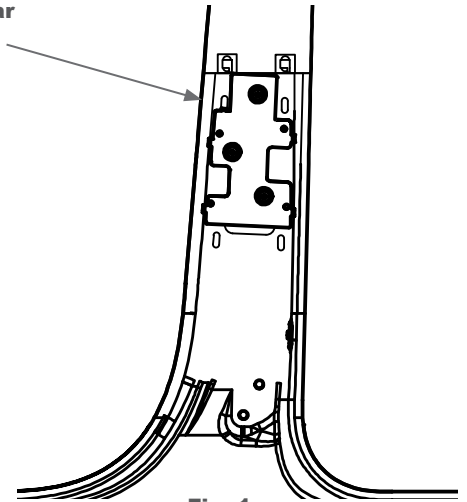

Fig. 1
- A. Locate and remove the lower part of the b-pillar trim to access the sheet metal body. After the trim is removed position the (3PK5715-01P) passenger side b-pillar bracket in location and mark the 4 holes to drill a pilot (with 3/16" drill bit) for the self tapping screws (3X162). The b-pillar bracket is located when the tab is all the way down on the slot as shown in fig. 1. Secure the b-pillar brackets to the passenger sides of the vehicle with the self-tapping screws.